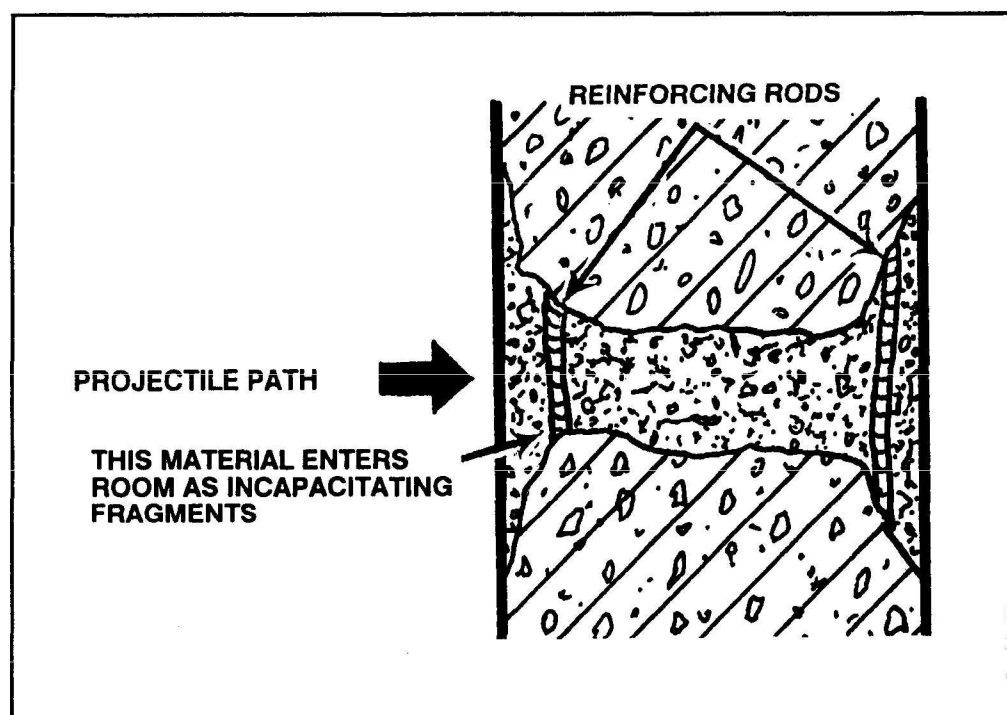

Figure 8-19. Tank HEAT round effects on reinforced concrete walls.
(2) The 105-mm HEAT round arms within 25 to 30 feet, and the 120-mm HEAT-MP round arms at about 36 feet. These arming distances allow the tank to engage targets from short ranges. The armor of the tank protects the crew from both the blowback effects of the round and enemy return fire. The APFSDS round does not need to arm and can, therefore, be fired at almost any range. The discarding portions of the round can be lethal to exposed infantry forward of the tank.
d. **Target Effects.** High-explosive, antitank rounds are most effective against masonry walls. The APFSDS round can penetrate deeply into a structure but does not create as large a hole or displace as much span behind the target. In contrast to lighter HEAT rounds, tank HEAT rounds are large enough to displace enough spall to inflict casualties inside a building. One HEAT round normally creates a breach hole in all but the thickest masonry construction—brick veneer and wood frame construction are demolished by a single round. Even the 120-mm HEAT round cannot cut all the reinforcing rods, which are usually left in place, often hindering entry through the breach hole (see Figure 8-19). Both HEAT and APFSDS rounds are effective against all field fortifications. Only large earth berms and heavy mass construction buildings can provide protection against tank fire.
(1) Tanks need infantry on the ground to provide security in built-up areas and to designate targets. Against targets protected by structures, tanks should be escorted forward to the most covered location that provides a clear